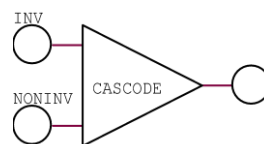

Figure 5
- 5.2. What is the differential input resistance of the circuit in Figure 5?